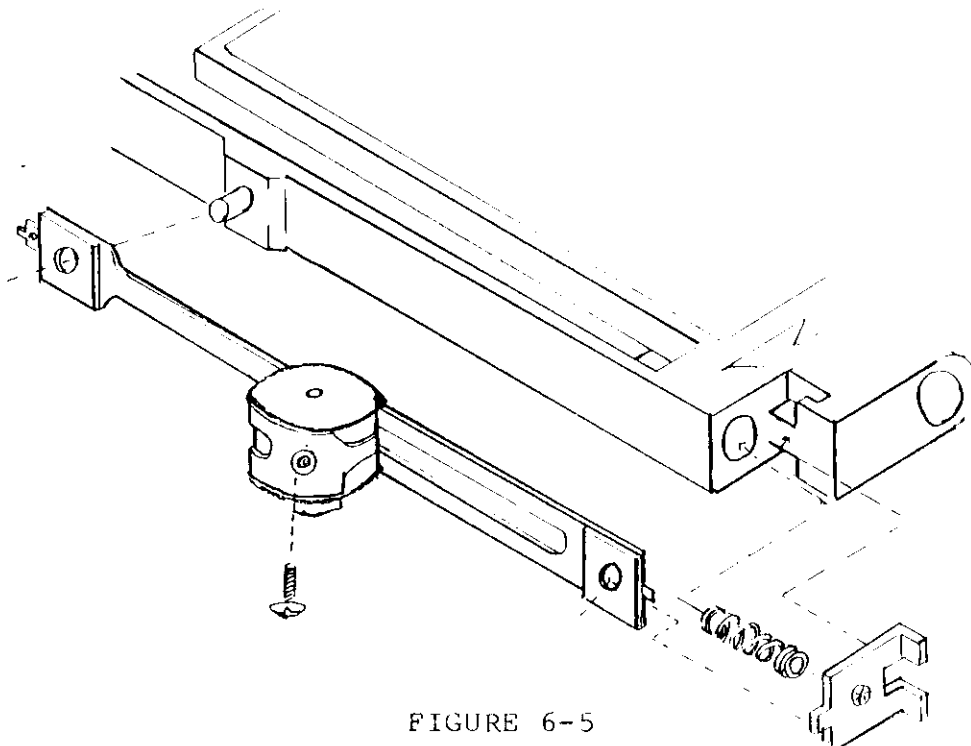

FIGURE 6-5
4. Loosen the Number 1 Phillips screw on the stepper motor shaft (Figure 6-5).